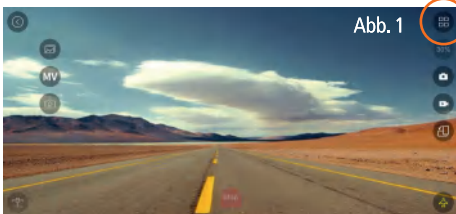

Abb. 1
- Use the menu button (small button at the top right) to display the functions (Fig. 1).